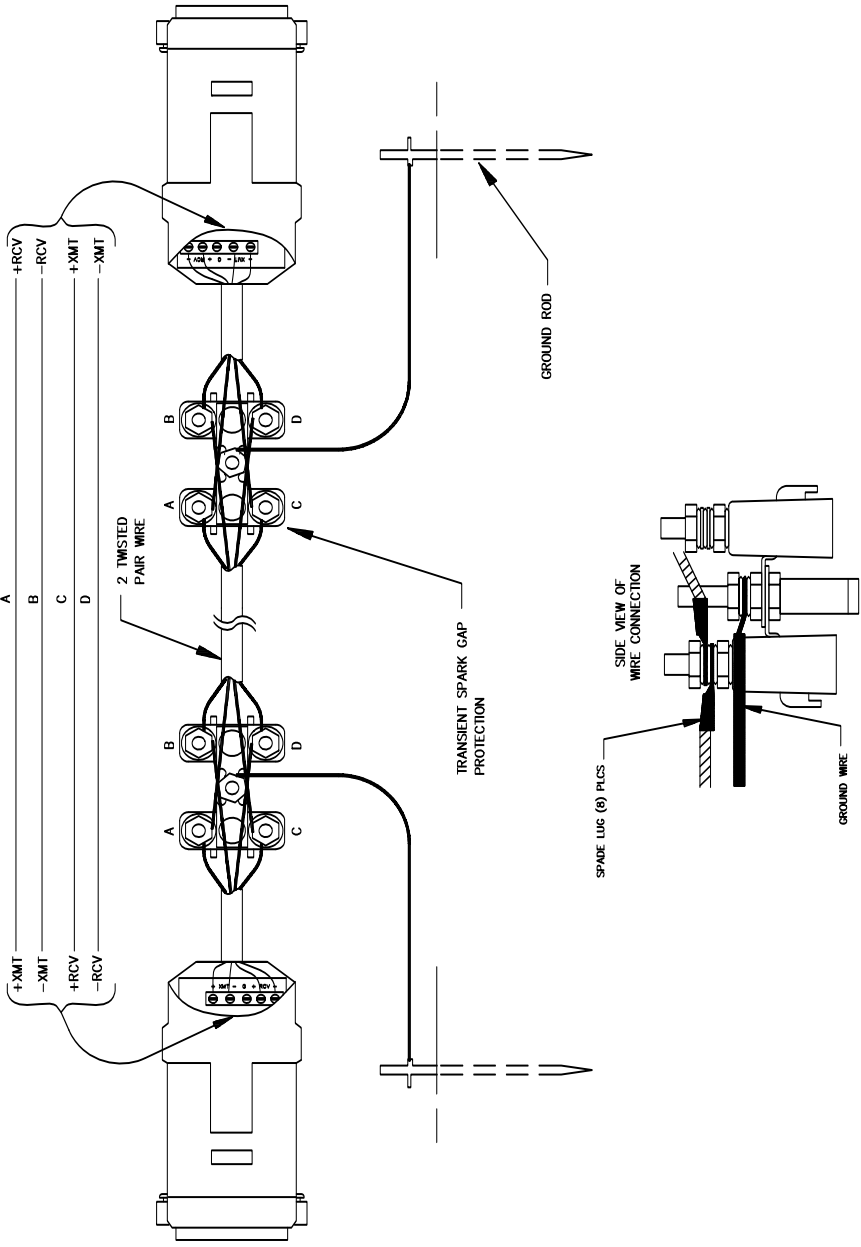

FIGURE 4. Installation of Spark Gap Protection
Figure 4 shows a typical set-up of the RAD modems. Installation is as follows:
3. Wiring connections are made as shown in Figure 4. Note wires labeled A and B are one twisted pair of the cable. Wires labeled C and D are the other twisted pair.
- 4. Transients induced on the communication line may damage any electronics connected at either end of the line. To decrease the chances for damage, spark gaps should be installed as shown in Figure 4. The transient protection shown may be purchased from Campbell Scientific, Inc. (p.n. 5563 shown in Figure 4, p.n. 6536 includes a plastic case, p.n. 6361 includes hardware for mounting to ground lug of CSI enclosures models ENC 10/12, ENC 12/14, or ENC 16/18). Spark gap wiring is straight through such that pin to pin continuity exists between the two modems. If the modems are installed entirely within a building, the transient spark gap protection is probably not needed.